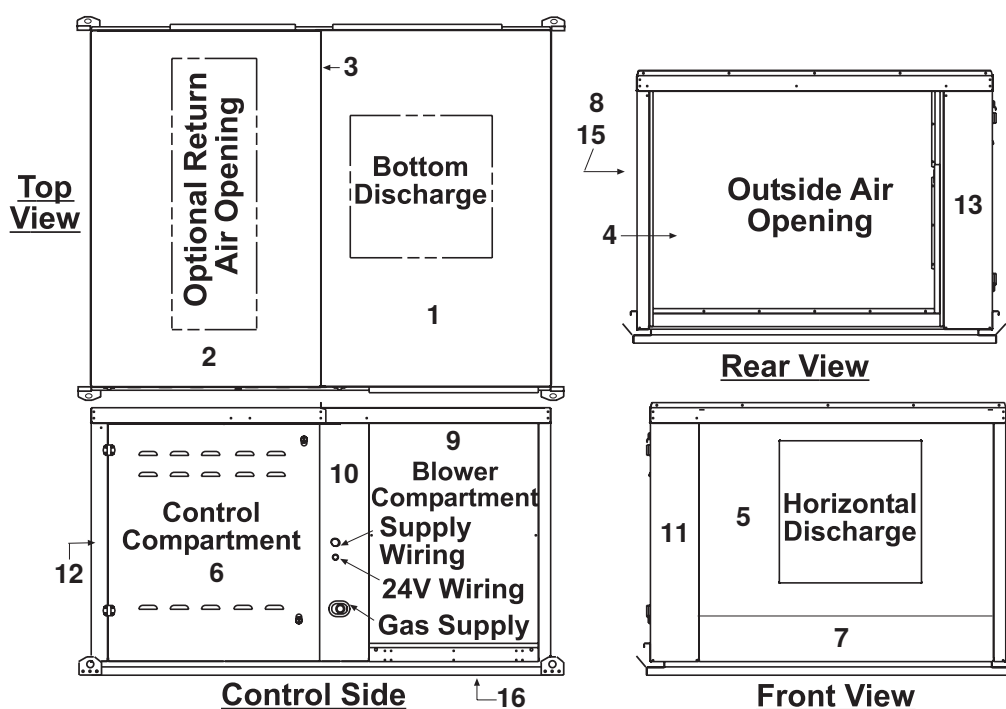

Figure 19. Cabinet Components—Model RDF-1, Series 3 (Refer to Table 36)
- Cabinet components for model RDF-1 series 3 units are listed in Table 36 and shown in Figure 19.